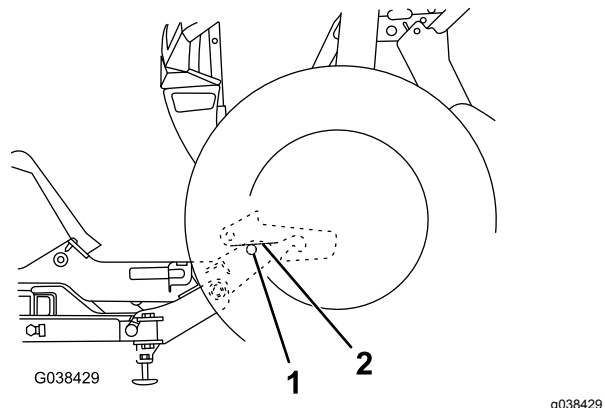

Figure 15
4. Rotate the kickstand leg until the coupler rear pin contacts the pin receiver as shown in Figure 15.